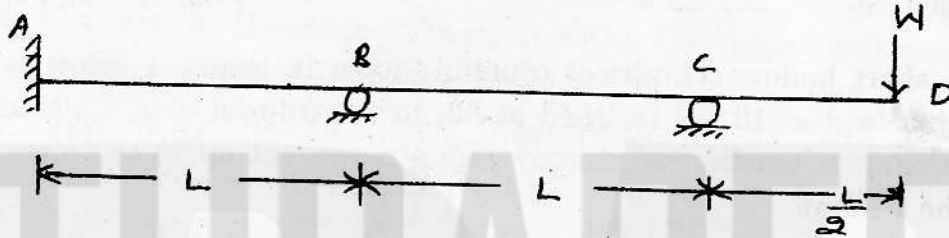

Fig. 5
- 3 (a) Determine the support moments for the beam and loading shown in fig. 5 below. Also draw S.F.D. and B.M.D.